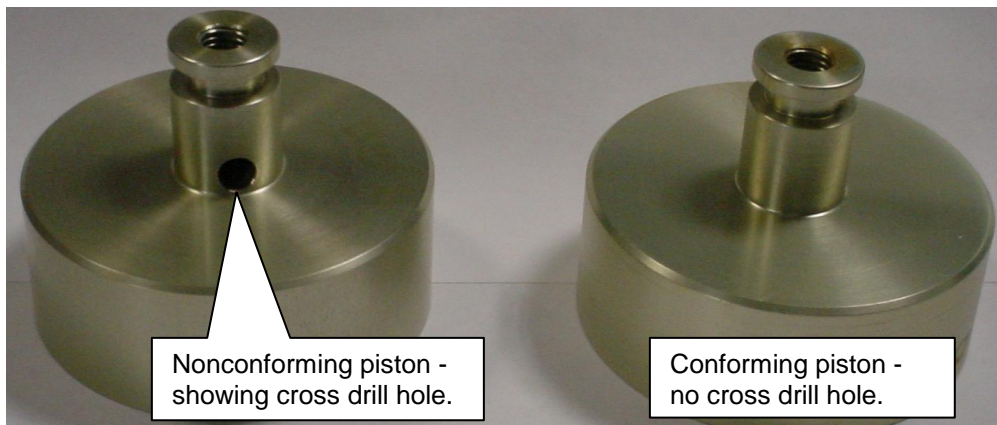

Figure 3 Comparisons of Nonconforming and Conforming Piston
- (1) Removing the brake assembly from the aircraft.
- (2) Disassembling the brake to the level required to remove the pistons. This requires removal of the retract mechanisms.
- (3) Removing the nonconforming pistons. Refer to Figure 3 for identification of nonconforming pistons. Remove and discard the O-rings.